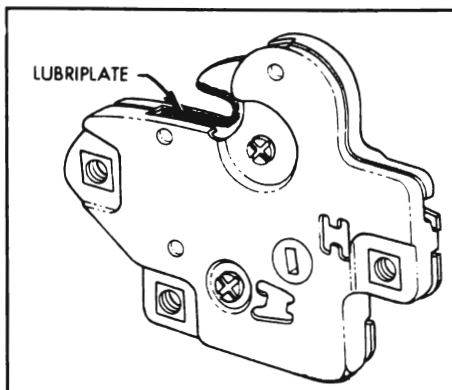

Figure 1-18—Lubrication of Rear Compartment Lid Lock Bolt
**8. Rear Compartment Lid and Back Door Locks.** On rear compartment lid locks, apply a thin film of Lubriplate or its equivalent. On back door locks, apply a thin film of Lubriplate or its equivalent to the bolt at the striker contact areas. See Figure 1-18.